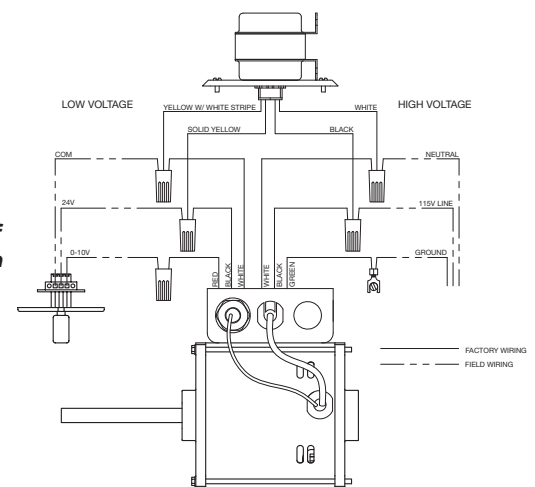

Figure 2 — Typical Wiring Diagram
2. Connect power in accordance with the NEC and all local codes. Refer to Figure 2 for the wiring diagrams.